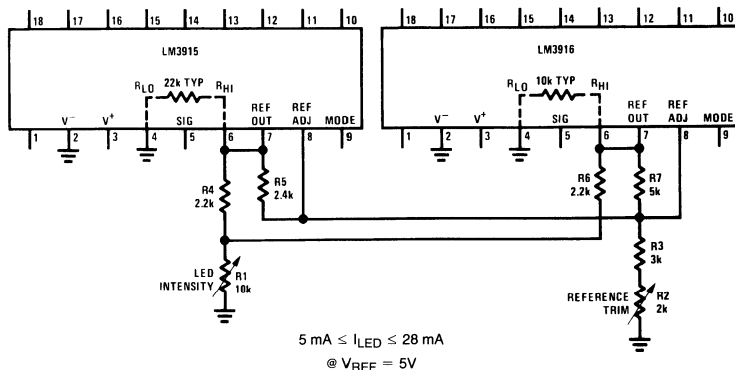

FIGURE 12. Independent Adjustment of Reference Voltage and LED Intensity for Multiple Drivers
*Figure 12* shows how to obtain a common reference trim and intensity control for two drivers. The two ICs may be connected in cascade or may be handling separate channels for stereo. This technique can be extended for larger numbers of drivers by varying the values of R1, R2 and R3. Because the LM3915 has a greater ladder resistance, R5 was picked less than R7 in such a way as to provide equal reference load currents. The ICs' internal references track within 100 mV so that worst case error from chip to chip is only 0.2 dB for  $V_{REF} = 5V$ .